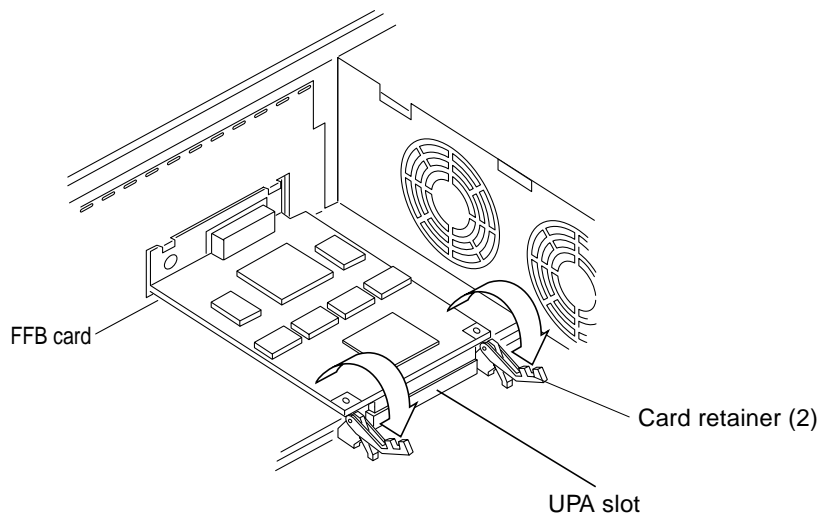

FIGURE 10-16 Preparing to Remove the FFB Card
5. Unlock the card retainers (FIGURE 10-16).